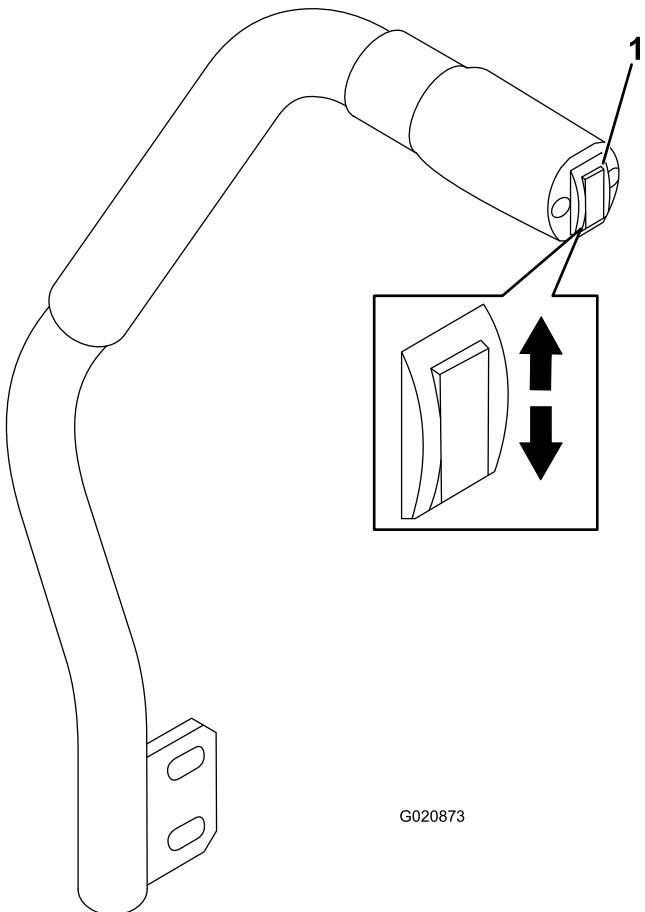

Figure 26
The deck-lift switch raises and lowers the cutting unit (Figure 26). The engine must be running for you to use this lever.
- To lower the cutting unit, push the deck-lift switch down (Figure 26).
- To raise the mover deck, push the deck-lift switch up (Figure 26).